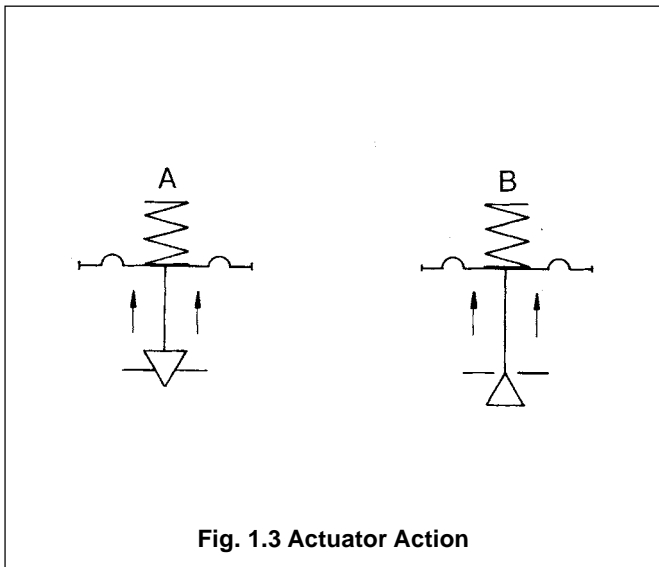

Fig. 1.3 Actuator Action
3. Check the positioner action. (See Fig. 1.3)
4. Check Actuator Action – see Fig 1.3